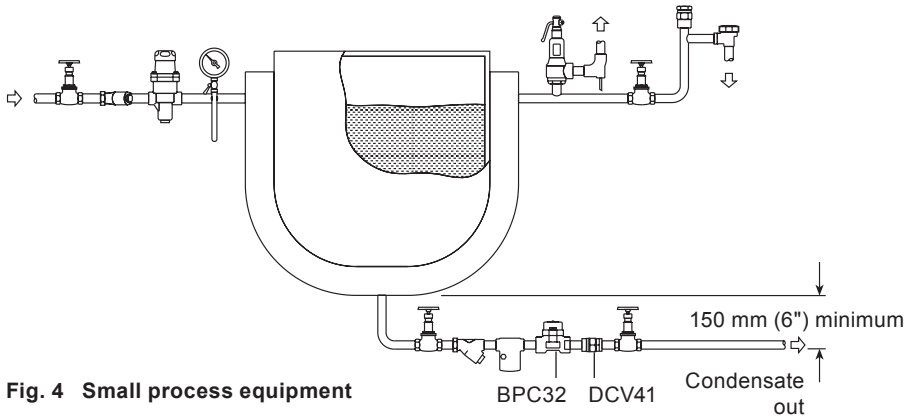

Fig. 4 Small process equipment
- 3.4** The trap is designed for installation in any position, horizontal or vertical, preferably with a drop leg immediately preceding the trap - typically 150 mm (6") see Figure 4.
- 3.5** Always fit a non-return (check) valve downstream of any steam traps which discharge into condensate return lines where backpressure is experienced. This is most commonly caused by a rising condensate line. The check valve will prevent the steam space flooding when the inlet pressure is reduced or the steam is shut off. Use a suitable valve such as the Spirax Sarco DCV41, see Figure 4.